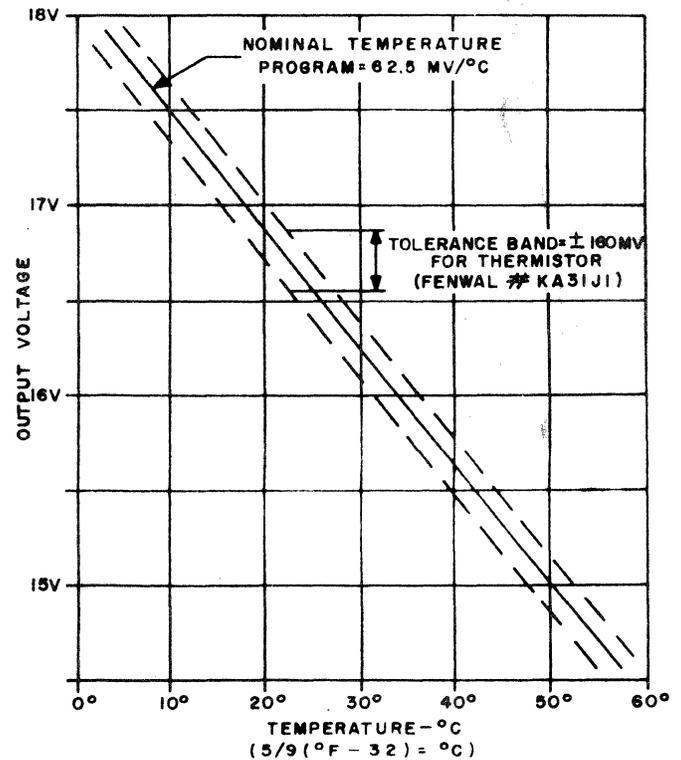

Figure 14. Thermistor Temperature Program
1. Measure the ambient temperature. Refer to Figure 14 and determine the voltage setting for the temperature measured.